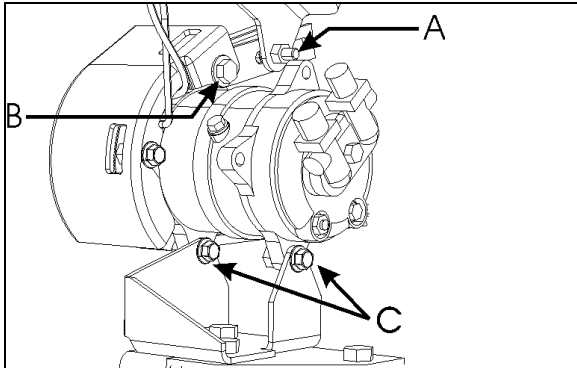

FIGURE 33: COMPRESSOR REMOVAL OR INSTALLATION
- Slacken bolts fixing small compressor. Slacken bolts A (refer to FIGURE 33).